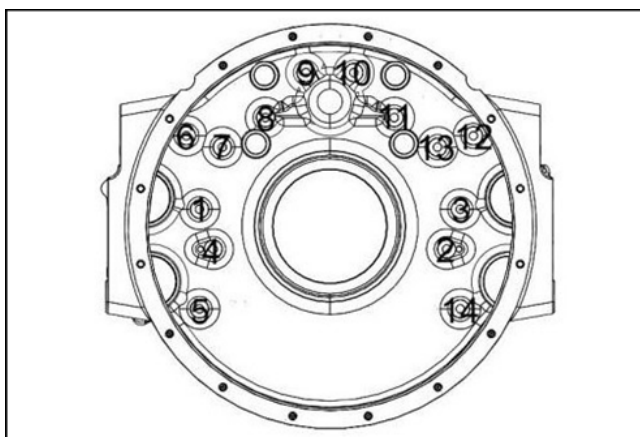

Figure 140.
7. Tighten the bolts in two steps in the following sequence (Figure 140).